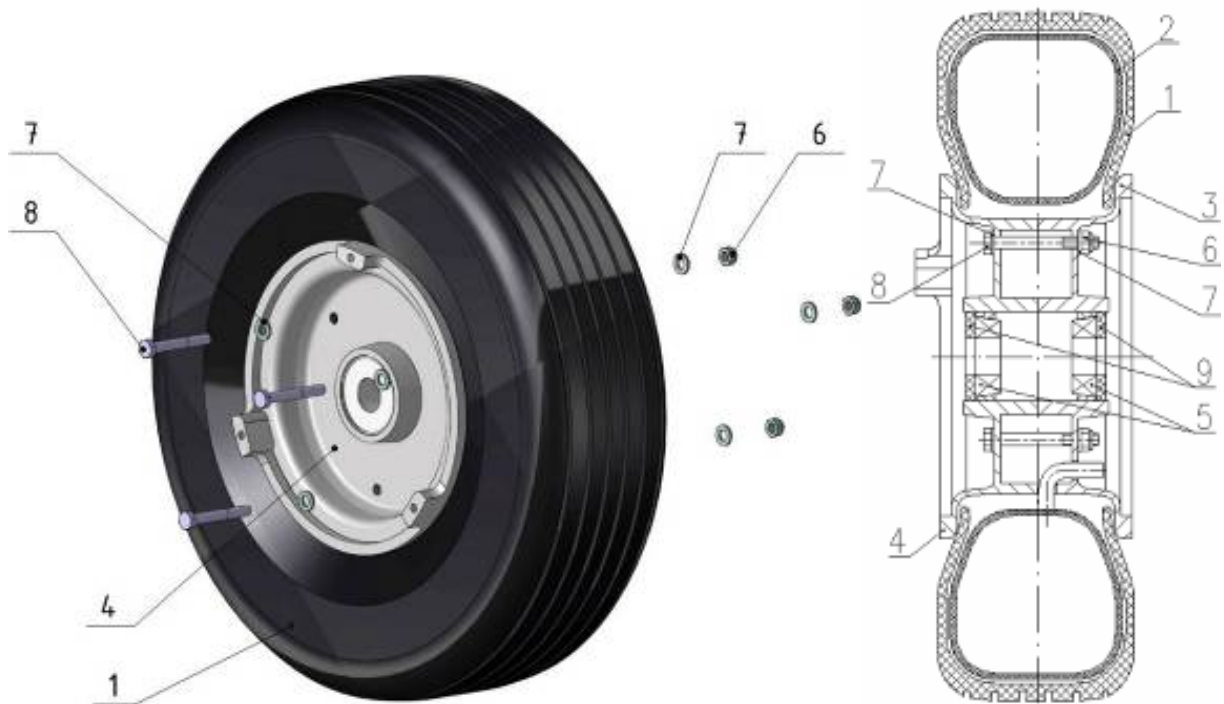

Fig. 32-10-8
B. Tire and Tube Inspection and Replacement (Fig. 32-10-8)